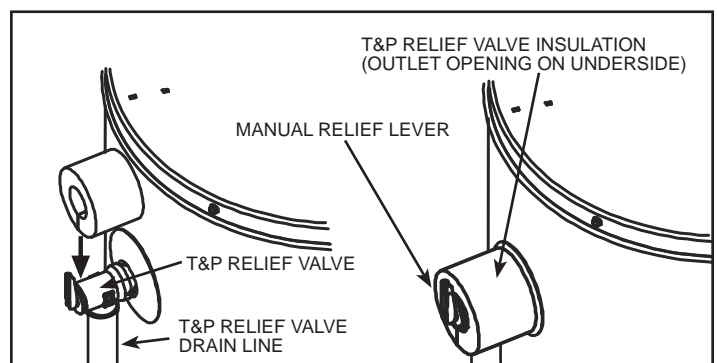

Figure 9. T&P Valve Insulation
Locate the temperature and pressure relief valve on the water heater (also known as a T&P relief valve) (see Figure 9).
2. Spread the slit open and fit the insulation over the T&P relief valve (see Figure 9). Apply gentle pressure to the insulation to ensure that it is fully seated on the T&P Relief Valve. Once seated, secure the insulation with duct tape, electrical tape, or equivalent.
**Important:** The insulation and tape must not block the discharge opening or hinder access to the manual relief lever (Figure 9). Ensure a discharge pipe is installed into the T&P valve discharge opening per the instructions in this manual.